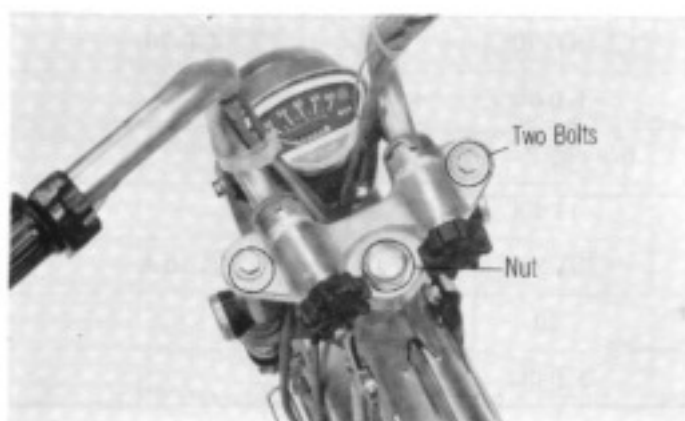

Fig. 57
The steering handle unit is made of steel pipe which is formed as a raised type. For easy handling and transportation, the steering handle is equipped with a fold down device and, further, it is so designed that the steering handle can be disassembled from the frame by removing two bolts, and a nut (Fig. 57).
- (1) After releasing two handle holder knobs, remove two stopper nuts from the fork top bridge using the special tool. (07072-09801)
- (2) Remove two bolts and 29 mm nut steering nut (Fig. 57)
- (6) Then the steering handle can be removed from the frame together with the steering bracket. (Fig. 57)